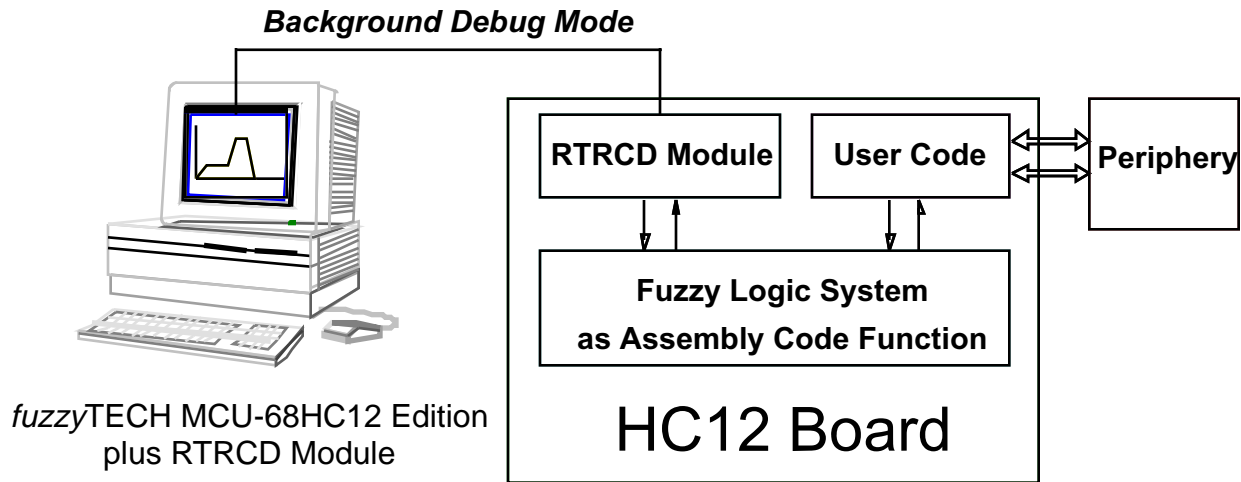

Figure 4 Real-Time Remote Cross Debugging
1. Visualize the complete fuzzy logic inference in real time using *fuzzyTECH*'s analyzers and dynamic editors (See Figure 4).
2. Carry out any modification done in *fuzzyTECH* on the M68HC12 in real time without interfering with the running process. (See Figure 4.)